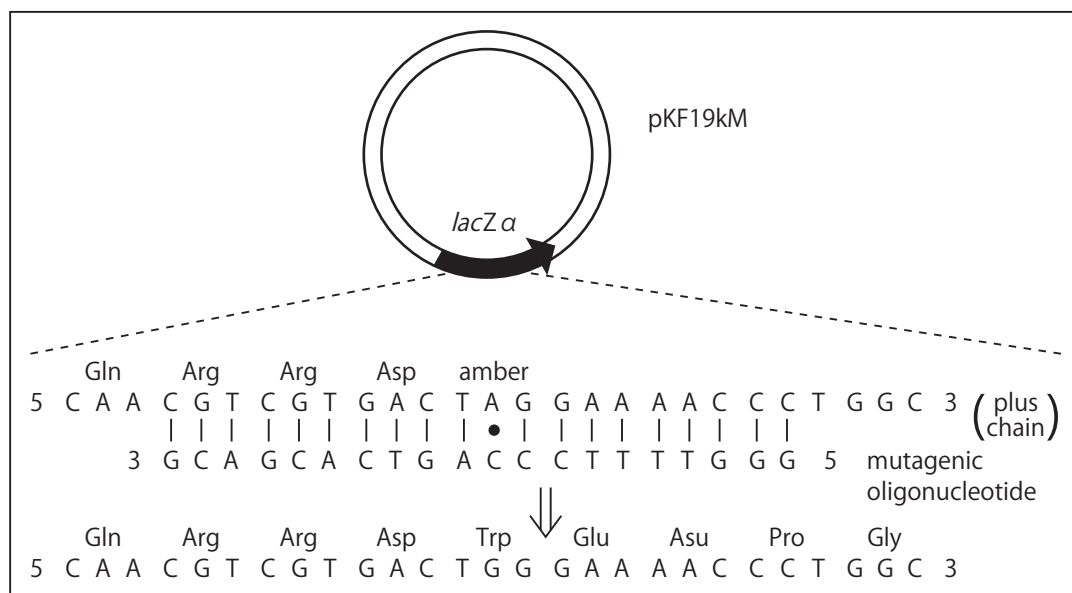

Fig. 5 Principle of control experiments using pKF19kM
* : Please refer to the Fig.5 for minus chain.